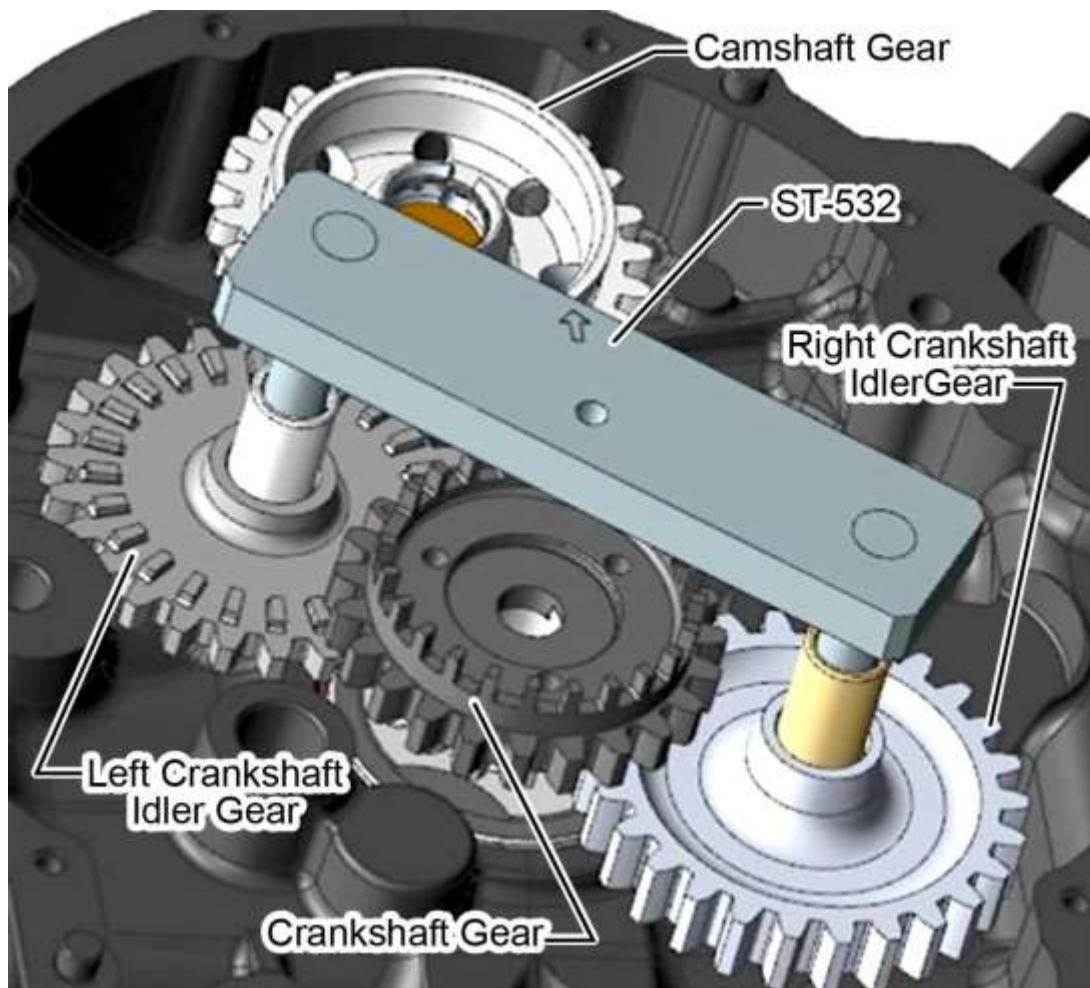

Figure 111
- C. Assemble the left crankshaft idler gear, right crankshaft idler gear, and crankshaft trigger gear assembly with the timing marks on the crankshaft trigger gear assembly and left crankshaft idler gear aligned on the Idler Gear Assembly Aid (ST-532) and install the gears on the crankcase (Figure 111).